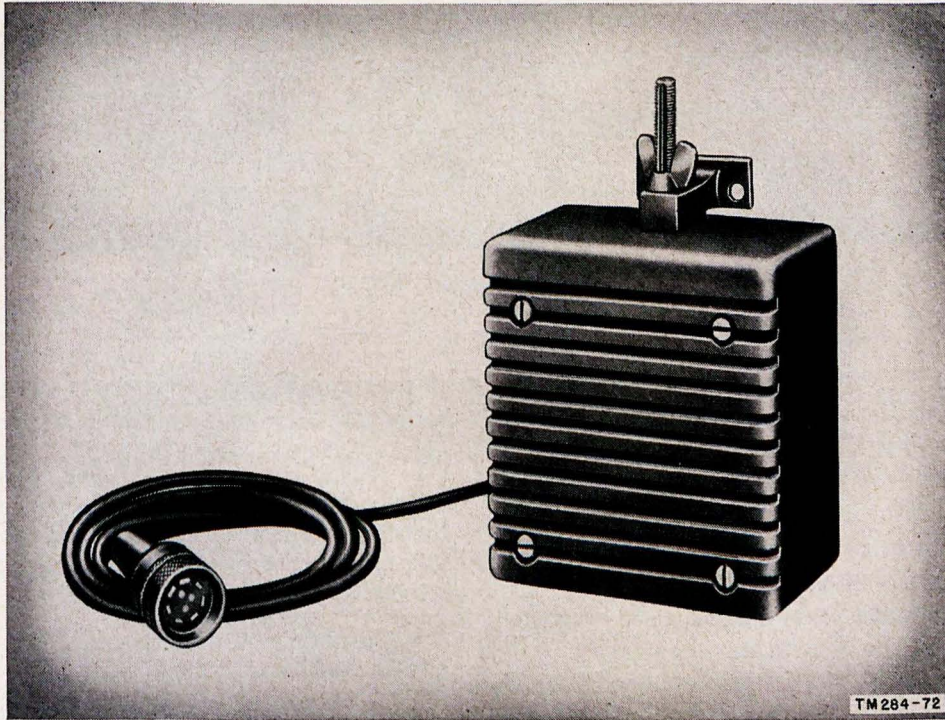

Figure 12. Dynamic Loudspeaker LS-166/U.
d. DYNAMIC LOUDSPEAKER LS-166/U. Dynamic Loudspeaker LS-166/U (fig. 12) is a 4-inch permanent magnet dynamic loudspeaker with a